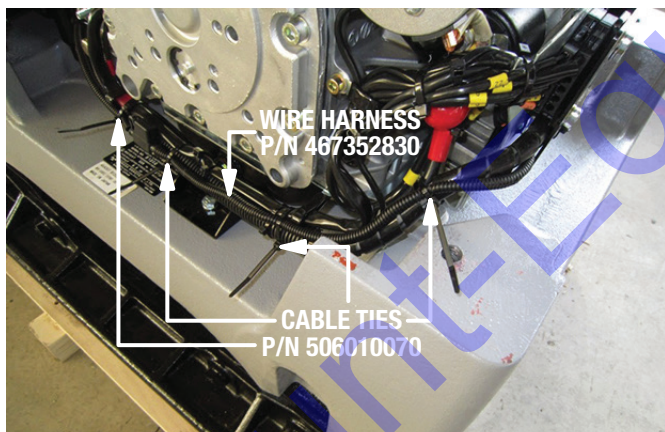

Figure 27. Route and Secure Wire Harness
- Route the sensor wire harness (P/N 467352830) along the right side of the unit as shown in Figure 27, and secure it to the existing wiring with cable ties.